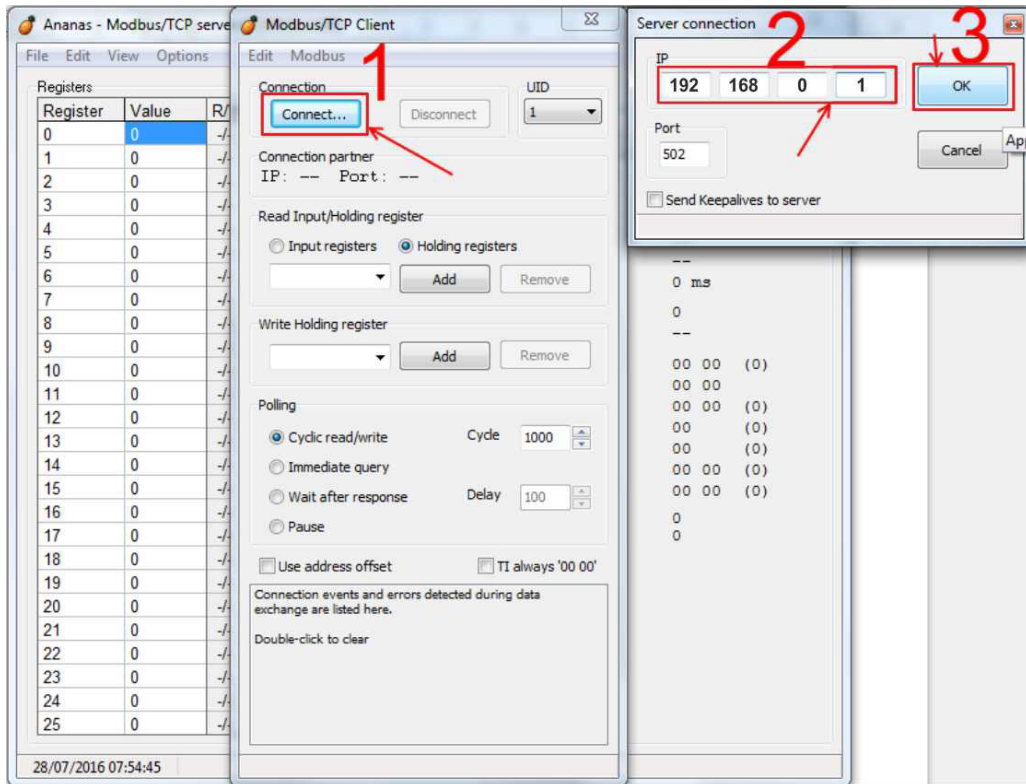

Fig. 1.0.2
- Select “**Connect...**” and then set the address of the CPC that you wish to connect to as **192.168.0.1**, as shown in fig. 1.0.2.